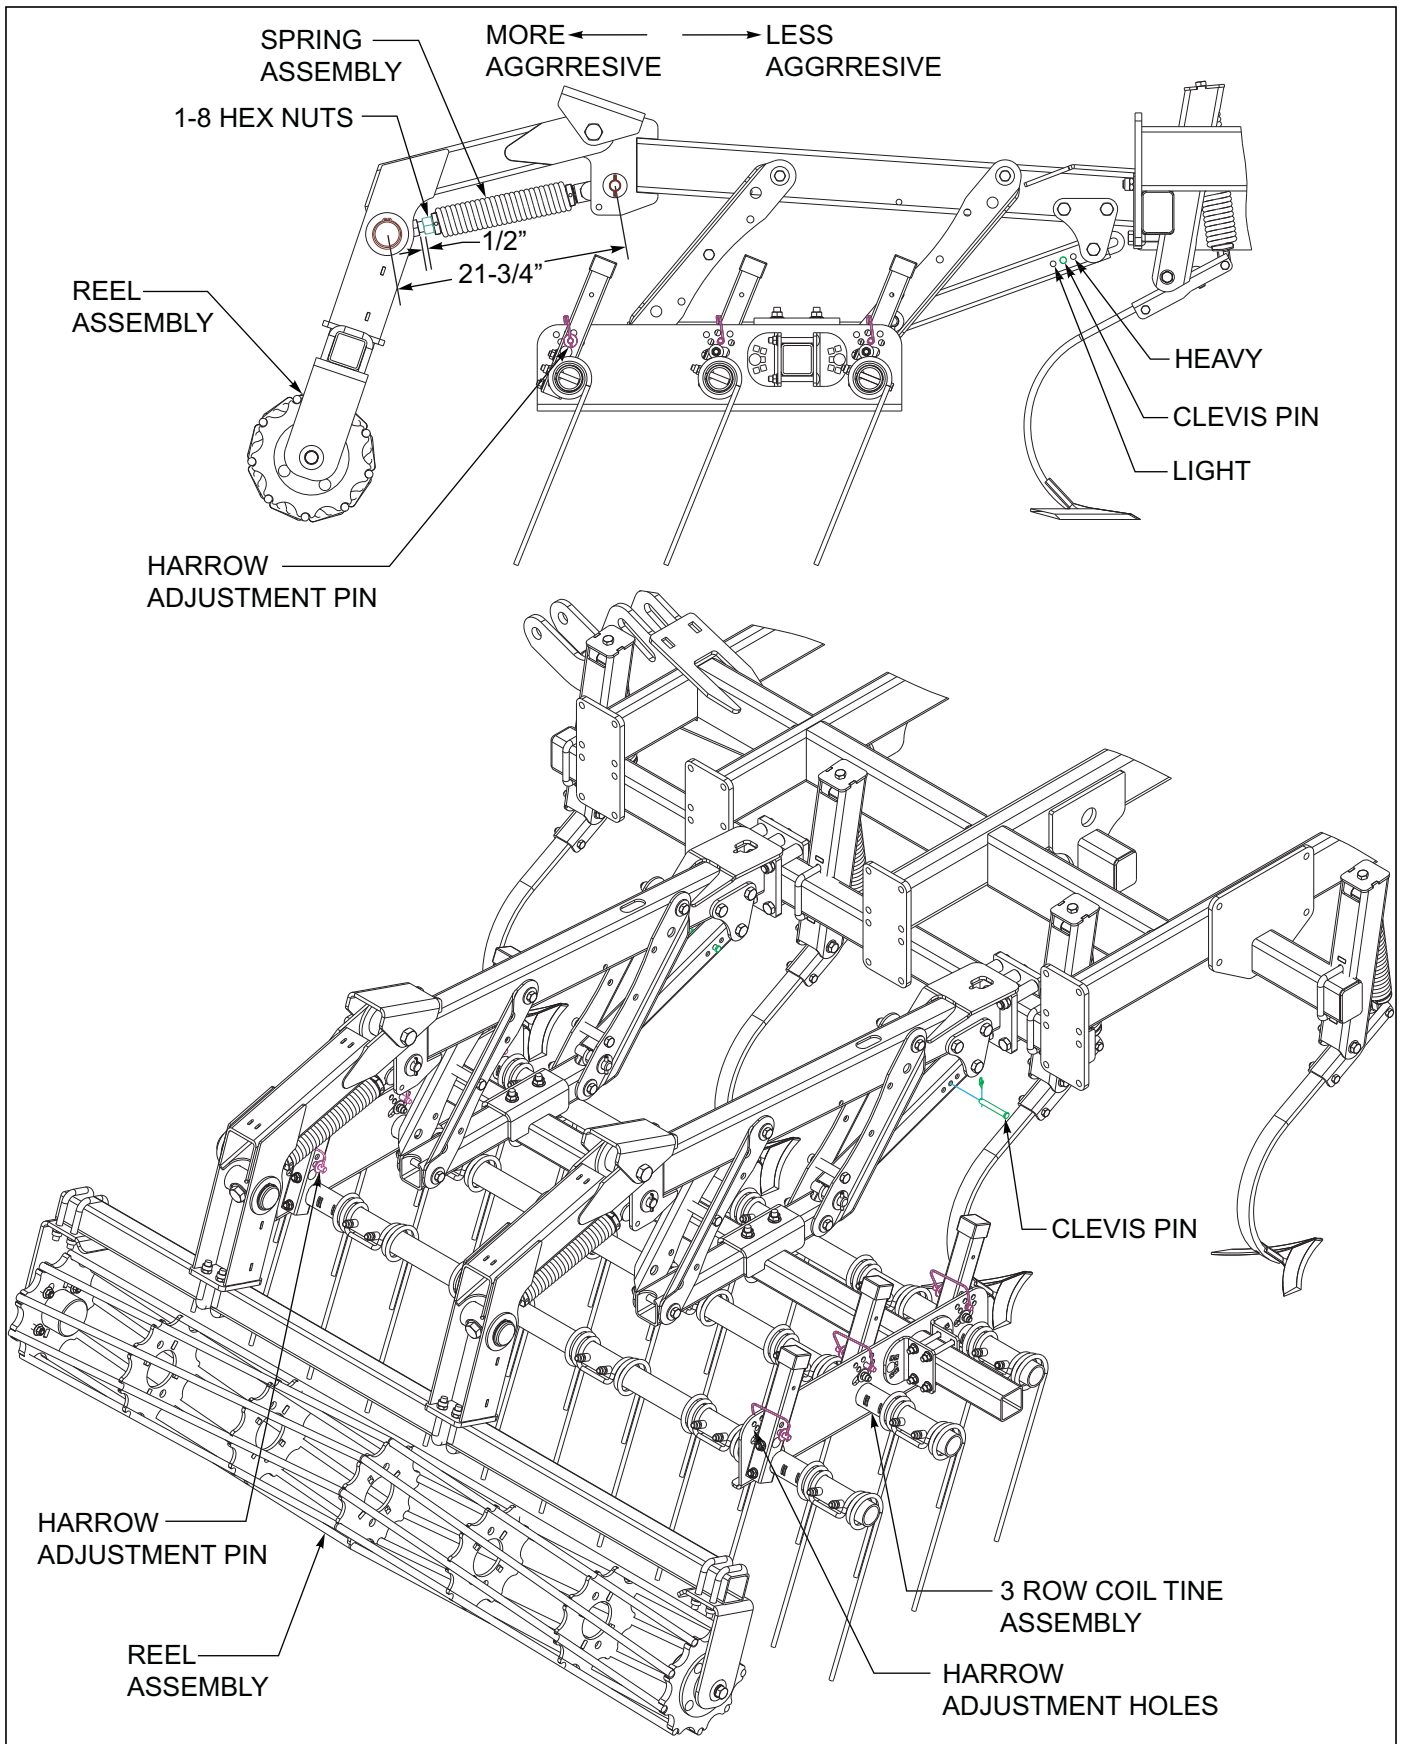

Figure 4-24: 3 Row Coil Tine and Reel Adjustments
3. In general tine harrows have better capabilities for handling more residue and wetter conditions. When operating the coil tine harrow, a more vertical tine tooth angle will make the harrow more aggressive. A lower/flatter tine angle will make the harrow less aggressive but will handle more residue and wetter conditions. To change the tine angle, raise the harrow off the ground. Remove the harrow pin from both angle adjustment tubes per tine gang bar tube **See Figure 4-24..** Rotate the angle adjustment tubes forward (less aggressive) or rearward (more aggressive) and reinstall both spring clip pins. Repeat the tine adjustment for each tine gang bar tube and harrow section.
6. Each coil tine harrow may be adjusted for spring pressure as well **See Figure 4-24..** Raise the tine harrow off the ground. Remove the clevis pin from the spring tube and install in a heavy or light setting as needed. **Excessive spring pressure and tine angle can overload harrow spring.**
7. To adjust the reel height, loosen the locking hex nut against the threaded spring end **See Figure 4-24..**